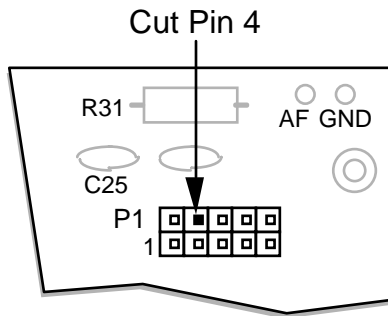

Figure 12
- Cut pin 4 of P1 on the KPA100 board (see Figure 12).